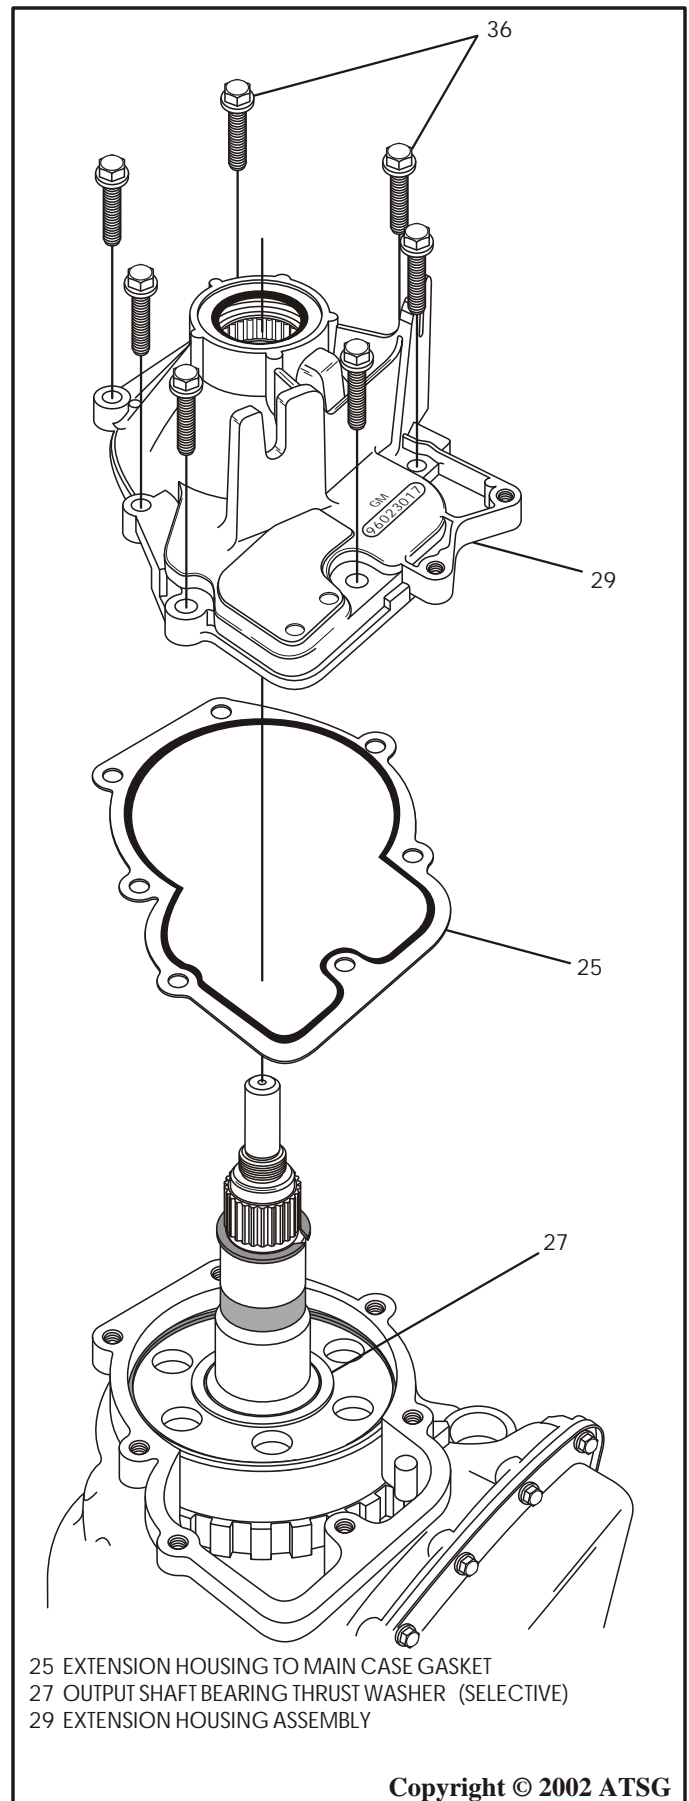

Figure 209
11. Install output shaft bearing thrust washer onto the output shaft, as shown in Figure 209.
12. Install a new extension housing gasket on the case surface, as shown in Figure 209.
13. Install the pre-assembled extension housing onto the case, as shown in Figure 209.
14. Install the seven extension housing bolts, as shown in Figure 209.